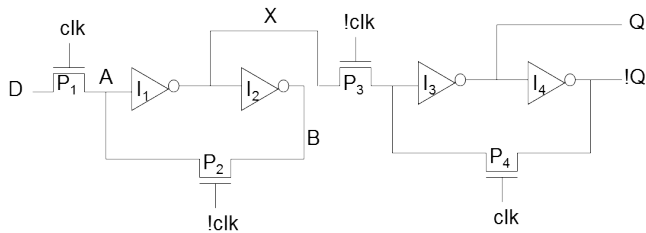

Fig. 9
- Sketch the block diagram of the following shift register (SR) with flip-flop and MUX. (5%)
9. Consider the ET FF as shown in Fig. 9. Explain the relative clock conditions (clk and !clk) to cause the problems (a)~(c). (10%)